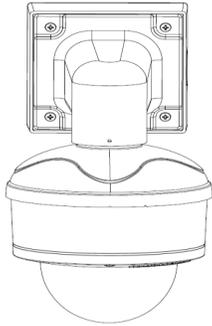

Figure 6
9. Attach the Dome Cover to the SurroundVideo® G5 Mini camera and fasten securely four captive screws as shown in Figure 6.